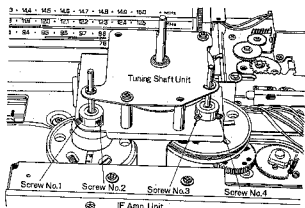

Fig. 22
6. Loosen the four (4) drum stopper screws (nos. 1~4), as shown in fig. 22.
8. Tighten the four (4) drum stopper screws (nos. 1~4), as shown in fig. 22.